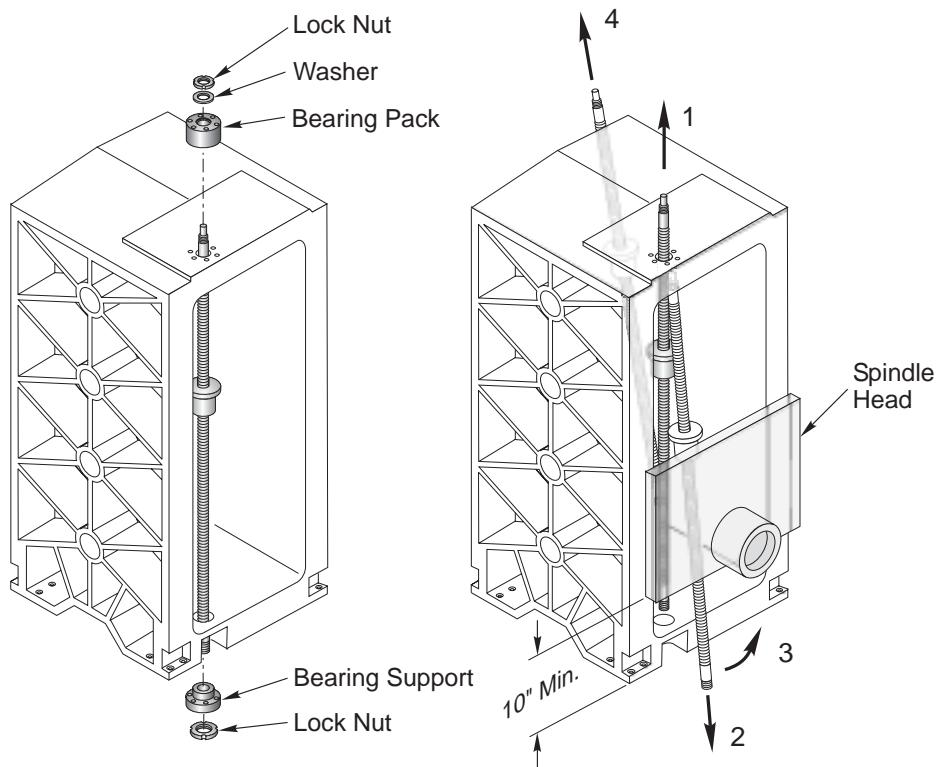

Figure 3.12-6
9. Remove the six (6) SHCS that fasten the ball nut to the ball nut housing on the spindle head. Back out the ball nut from the top of the spindle head.
15. Remove the ball screw as pictured in figure 3.12-6.